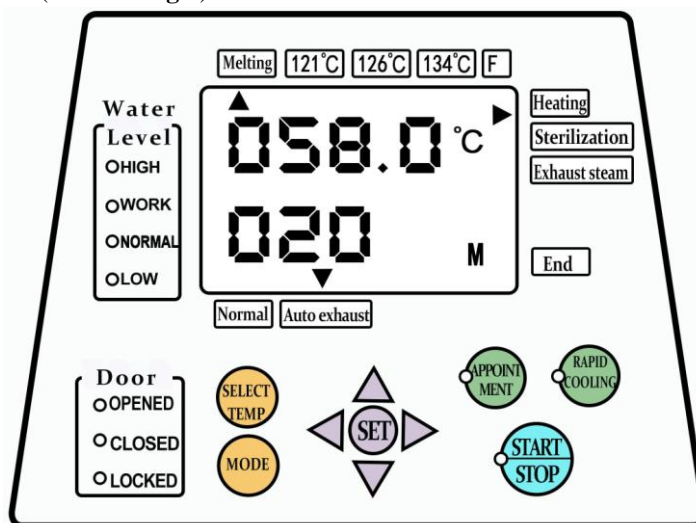

Fig. 3
- 7.6 Panel Display Part: (Refer to **Fig.3**)